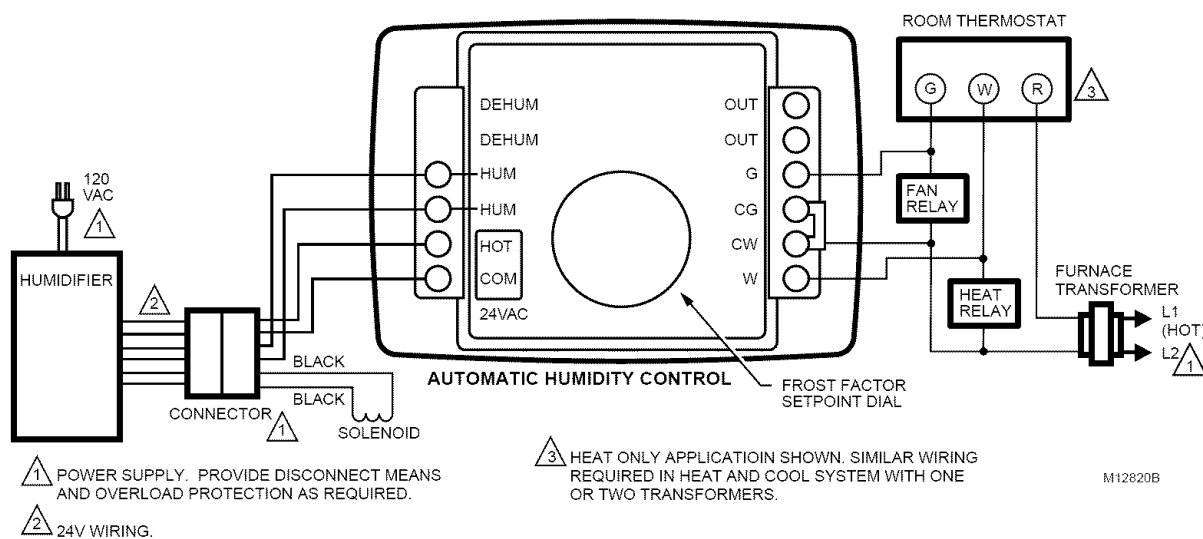

Fig. 8. Typical wiring diagram for humidifier using H1008A Automatic Humidity Control.
2. Connect the humidifier to the two HUM terminals on the H1008A as shown in Fig. 8.